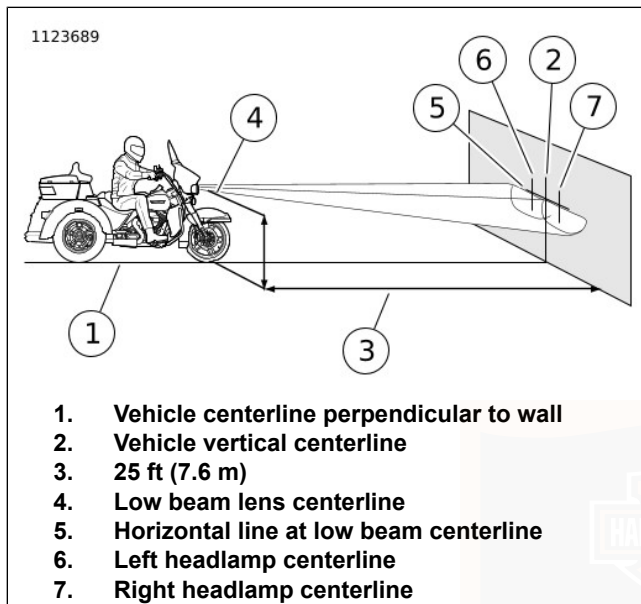

Figure 81. Headlamp Alignment: Dual LED
4. See Figure 81. Park the motorcycle on a line (1) perpendicular to the wall.
6. Draw a vehicle vertical centerline (2) on the wall.